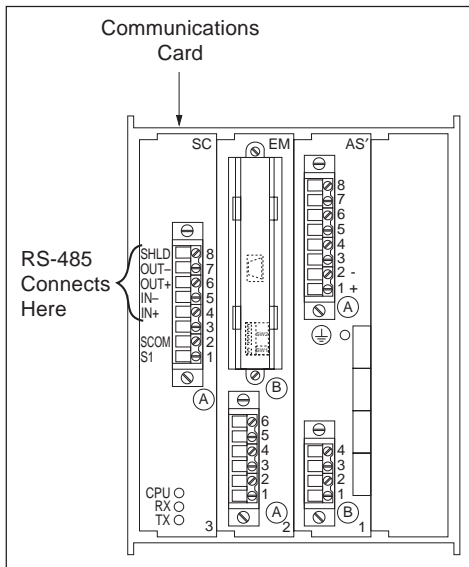

Figure 29: Communications card
Digital relay models DR-LXS01 S0A TBN and DR-LXS01 S0A TEN include a communications card (card 3). This communications card (figure 29) supports:
Digital relay models DR-LX S01 SOA TBN and DR-LX S01 SOA TEN include an RS-485 communications port for connection to a POWERLOGIC communications link. These digital relays use a removable, 8-position communications card connector, with the RS-485 connected at terminals 3A4–3A8 (figure 29).
3. Referring to table 4, page 29, connect the appropriate wire to the IN+ terminal on the digital relay's RS-485 8-position terminal block (figure 29, page 26). Connect the other end of the same wire to the IN+ terminal of the next device. Tighten both terminal screws; see the **Terminal Block Wiring Specifications** table, page 103, for the correct torque range.